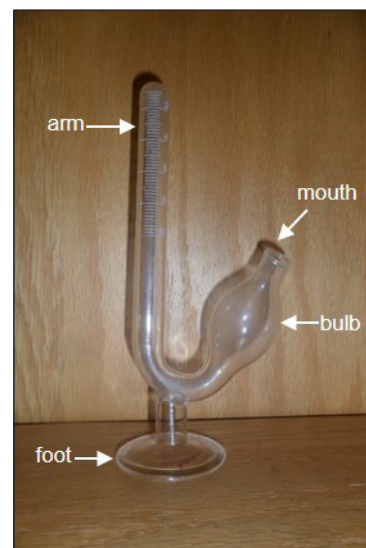

Figure 3. Fermentation tube.
5. Pour the contents of each beaker into separate fermentation tubes (Figure 3). Cover the mouth of each tube with paraffin wrap to make the tube air tight. Carefully invert the fermentation tubes to fill the arms of the tubes completely with liquid. Make sure there are no air bubbles in the arms.